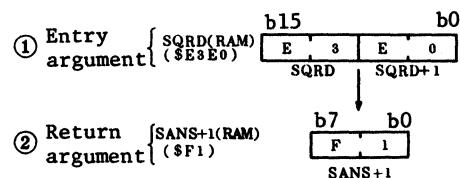

Fig. 1 Example of SQRT execution
(b) Fig. 1 shows example of SQRT execution. If entry argument is as shown in part ① of Fig. 1, square contained in SANS+1 (RAM) as shown in part ② of Fig. 1.